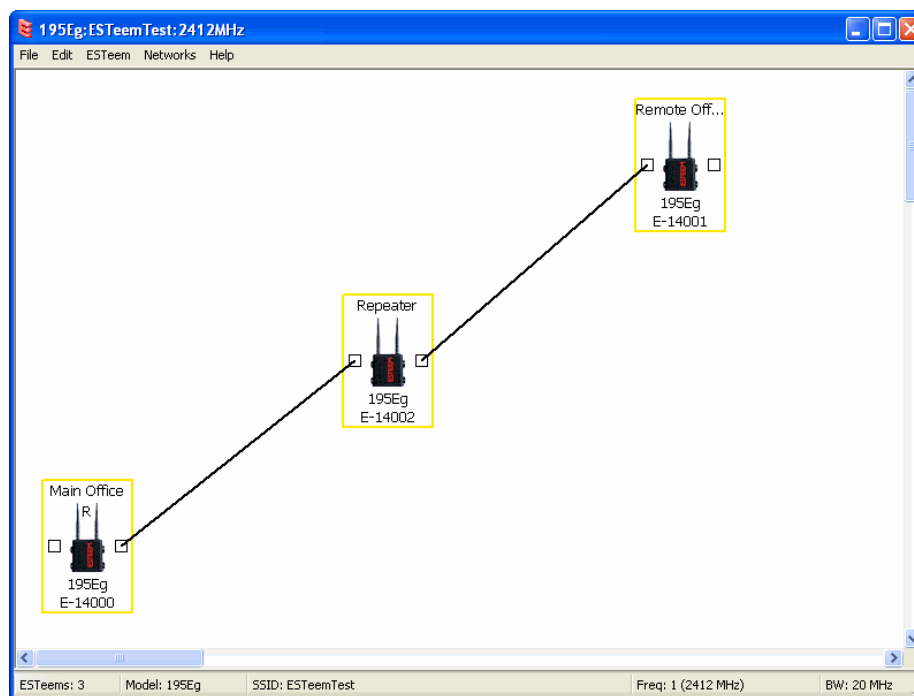

Figure 15: Example 2 Layout
- Move the ESTeem 210 icons on the screen to simulate the layout of the diagram. Draw connection lines between the modems to make the wireless link in the same order as the network layout (Figure 15).